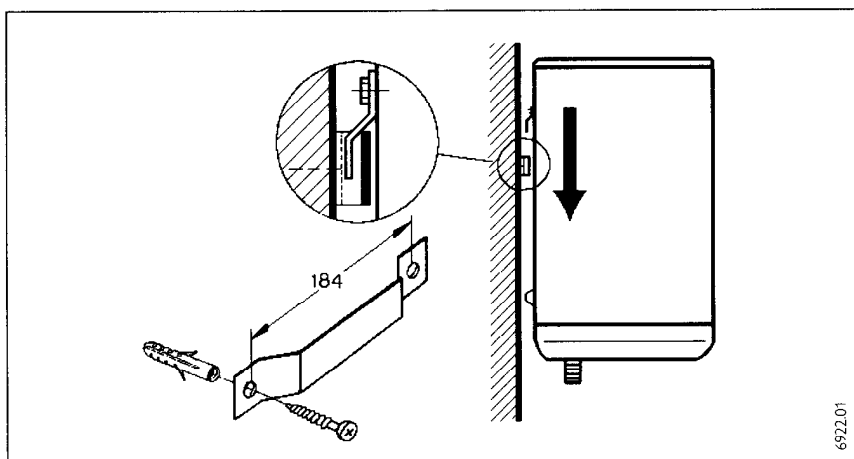

Fig. 4 / Rys. 4 / 4. ábra / Рис. 4
- Install vertical as shown in Fig. 4